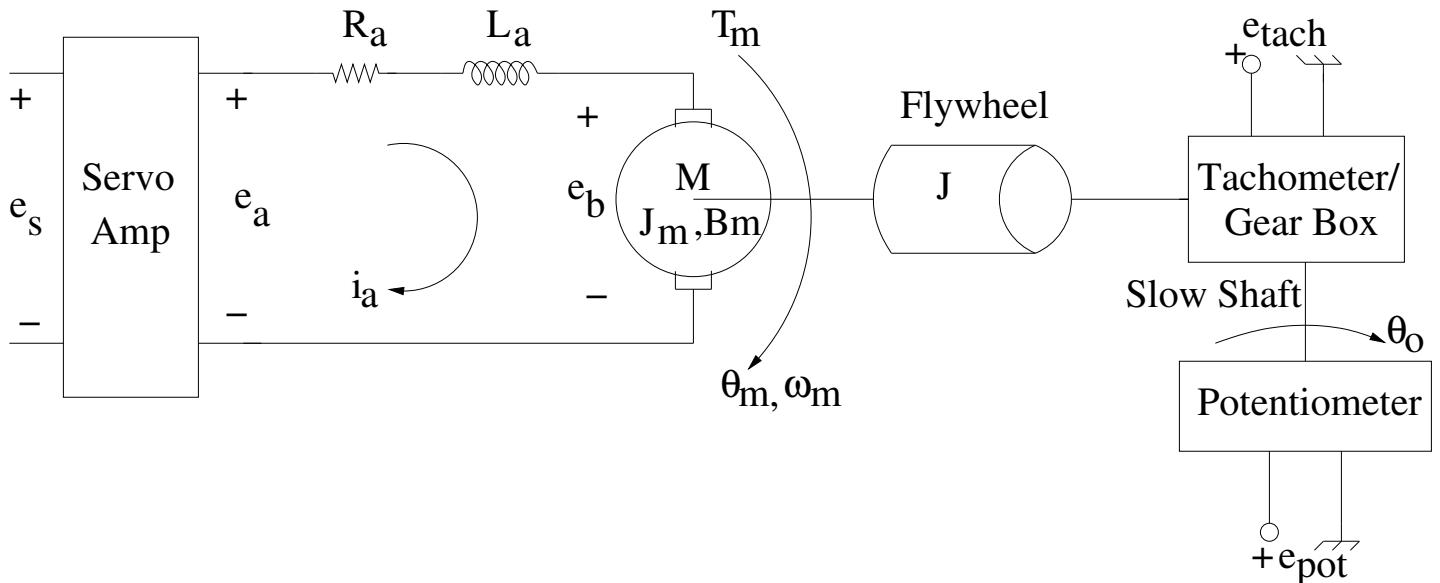

Figure 4.1. DC motor model for position and velocity control.
The purpose of this laboratory is to develop a mathematical model of a servo system from Feedback Instruments Limited. The main component of the servo system is the DC motor. The electrical model of the motor is shown in Figure 4.1. The DC motor is basically a torque transducer that converts electrical energy into mechanical energy. The torque developed on the motor shaft is directly proportional to the field flux and the armature current. Assuming that the field flux is constant, the motor torque can be written as
where e_s is the voltage applied to the servo amplifier and K_{sv} is the gain of the servo amplifier. If the flywheel is mounted directly to the motor shaft, the mechanical output of the servo-mechanism shown in Figure 4.1 is given by
1. Draw the block diagram of the servo system shown in Figure 4.1 with e_s as the input; and tachometer and potentiometer voltages as the outputs.
3. Set up the circuit shown in Figure 4.1 and collect the data in Table I.